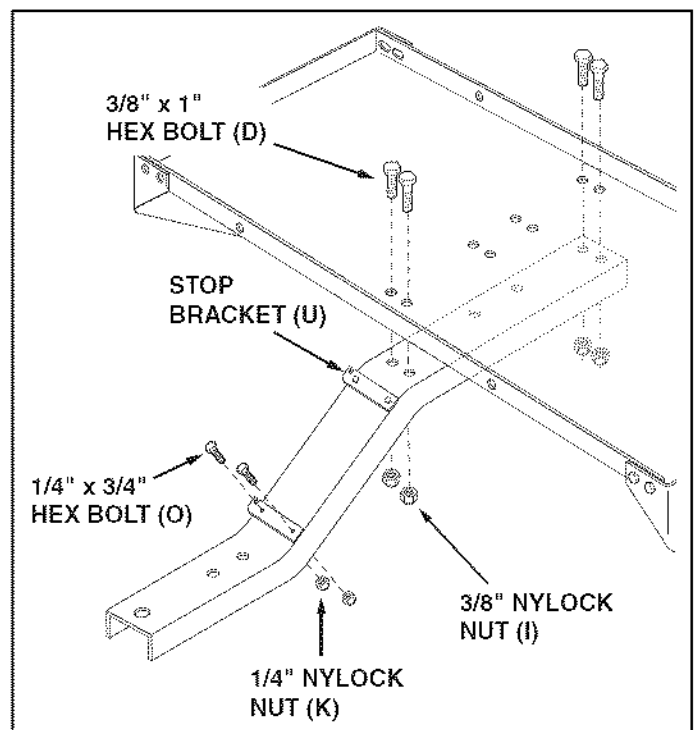

FIGURE 6
- Assemble the tongue to the tray using four 3/8" x 1" hex bolts (D) and 3/8" nylock nuts (I) as shown in figure 6. **Tighten.**
- Assemble the two stop brackets (U) to the tongue using four 1/4" x 3/4" hex bolts (O) and 1/4" nylock nuts (K). **Tighten.** See figure 6.